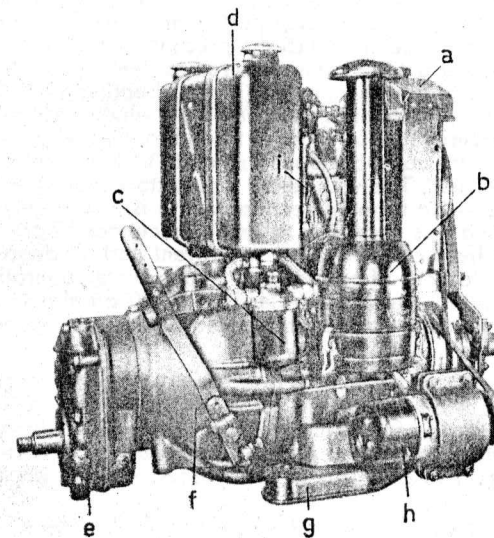

Fig. 12:
The **lubrication system** is of the forced-feed type, i. e., when the engine is running, oil is constantly fed to the main driving components in the crankcase and is, for the most part, consumed in the process. Consequently the oil level in the lubricating oil tank will steadily go down while engine is in operation. It is therefore essential to keep a constant check on the oil level in the tank d (Fig. 12, stationary version of engine) by means of the gauge glass i (Fig. 12) so as to ensure that the engine will not all at once be running without lubrication oil.
1. OIL-BATH AIR CLEANER: The oil level in the air cleaner b (Fig. 12) should always be kept within the appropriate marks. If necessary, replenish with oil. The oil must be changed from time to time. The frequency with which this should be done will depend on how dusty the conditions are under which the engine is operated. Thus it may be necessary to change the oil after only a few hours. It must in any case be changed when the sludge that forms in the oil bath reaches a depth of 1 cm (about $\frac{3}{8}$ in.). **Oil that has become heavily contaminated with sludge clogs up the air cleaner and is liable to cause harm to the engine.**
2. **OIL LEVEL IN LUBRICATING OIL TANK** can be constantly supervised by means of the gauge glass i (Fig. 12). Replenish the oil supply in good time — preferably before starting the engine.
The radiator a (Fig. 12) should always contain sufficient water to ensure that proper circulation of the water is maintained in the upper tank of the radiator. Every day, before starting the engine, the water in the radiator should be replenished to make sure overflowing. At the same time a quick check should be made to that the ball in the relief valve moves easily and is not jammed by "fur" (lime deposit). The